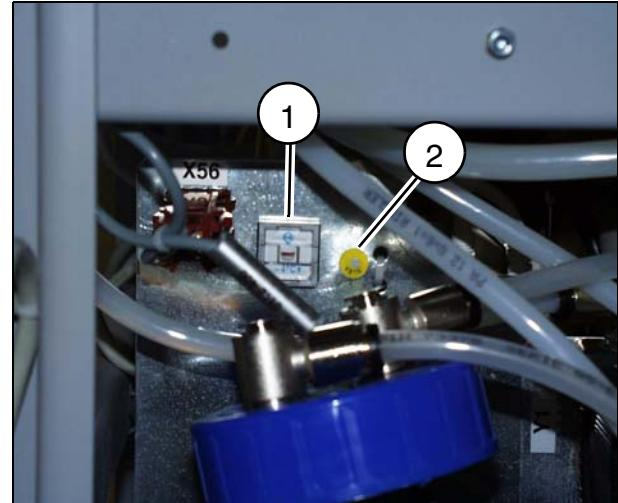

Fig. 6
- Check both temperature indicators (Fig. 6).
- If the temperature is below -4°C, a short red bar will be visible in the center white strip of the -4°C indicator (1/Fig. 6). If the temperature exceeds +49°C, the large center of the round indicator, which is approx. 3 mm in diameter (2/Fig. 6), will have turned nearly black.